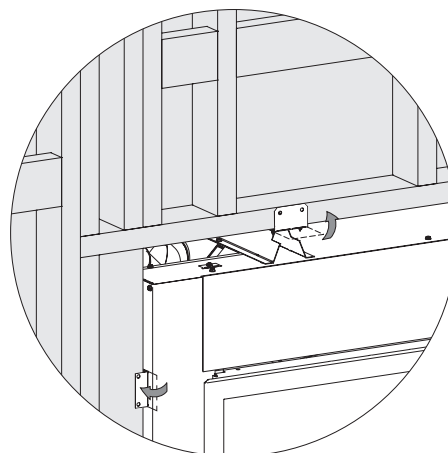

**Figure 23**
3. If necessary, the positions of the side nailing flanges can be adjusted by loosening (but do not remove) the top and bottom screws, anchoring the bracket in place using a center screw from the hardware pack, and re-tightening the top and bottom screws. **See Figure 23.**